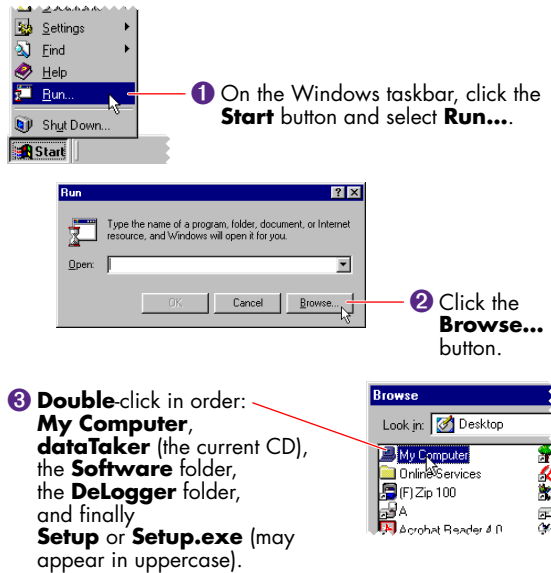

FIGURE 10 Starting the DeLogger installer
- b) Follow the numbered steps in Figure 10.